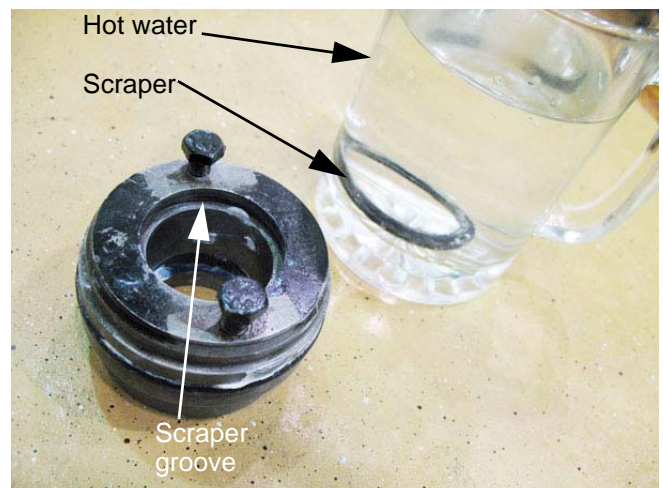

Figure 5.30
- 3.28. Install the scraper: See Figure 5.30.